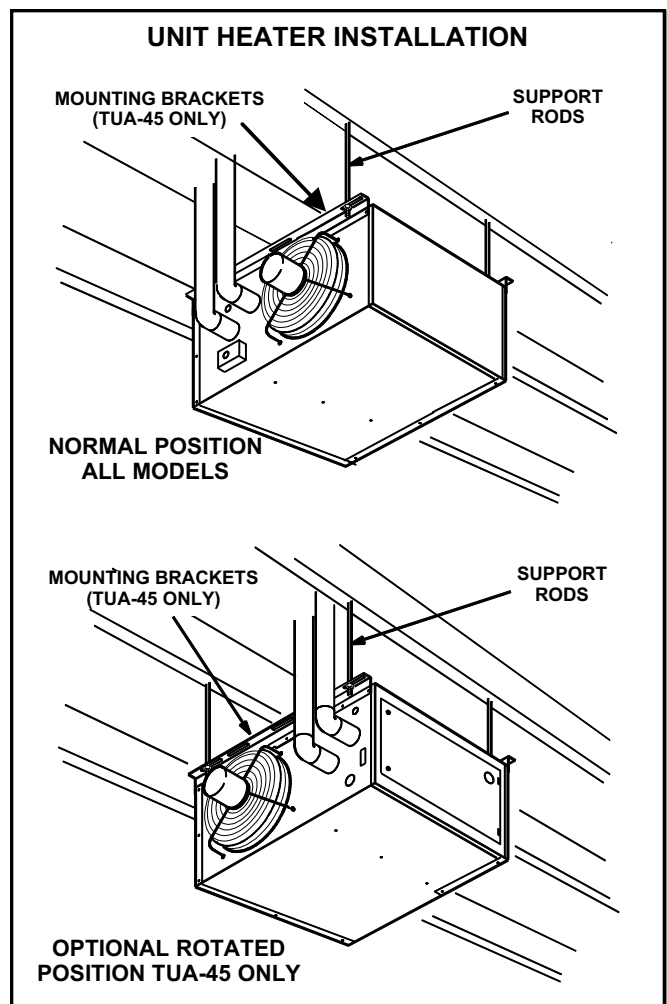

FIGURE 1
Unit is shipped ready for installation. TUA-045 unit may be installed as shown in figure 1 or rotated 180° depending on desired location as governed by clearances, vent connection, air direction, gas supply, electrical supply and service accessibility.
- 5 - To support unit, secure mounting bracket to ceiling joist or truss. Unit may also be supported using support rods as shown in figure 1.